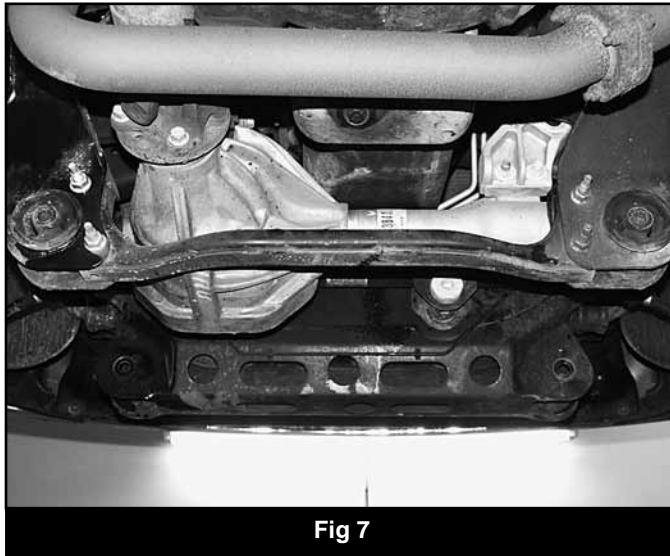

Fig 7
24. Remove the four bolts mounting the OE rear crossmember to the frame rails and remove the crossmember from the vehicle (Fig 7). Discard the crossmember and the hardware.